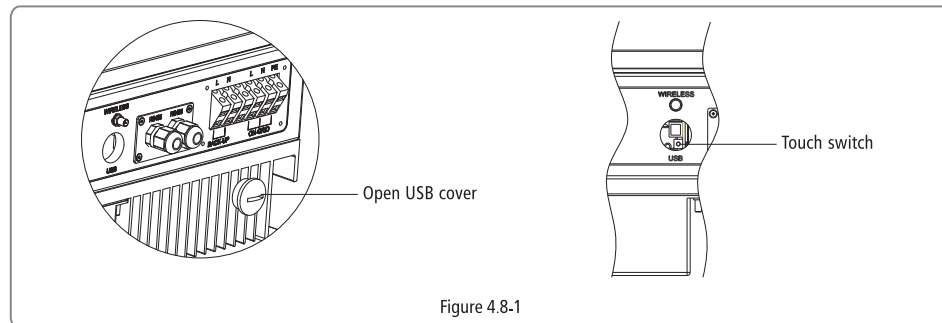

Figure 4.8-1
- Long press(more than 5s, less than 8s) the touch switch until the LED Wi-Fi displays "Blink 0.5s on 0.5s off", stop pressing and Wi-Fi reset is successful. Refer to Figure 4.8-1
- Long press(more than 20s, less than 30s) the touch switch until the LED Wi-Fi displays "Blink 0.5s on 0.5s off" twice, stop pressing and Wi-Fi reload is successful. Refer to Figure 4.8-1.